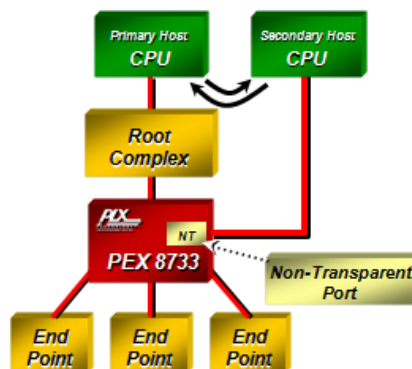

Figure 3. Non-Transparent Port
In Single-Host mode, the PEX8733 supports 2 **Non-Transparent (NT) Ports**, which enables the implementation of **dual-host systems** for redundancy and host failover capability. The NT port allows systems to isolate host memory domains by presenting the processor subsystem as an endpoint rather than another memory system. Base address registers are used to translate addresses; doorbell registers are used to send interrupts between the address domains; and scratchpad registers (accessible by both CPUs) allow inter-processor communication (see Figure 3).